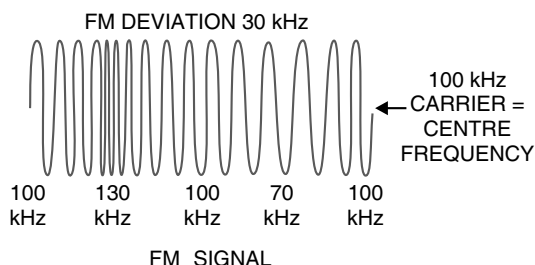

Fig. 14.21
**Illustration.** The process of frequency modulation (FM) can be made more illustrative if we consider numerical values. Fig. 14.21 shows the FM signal having carrier frequency  $f_c = 100$  kHz. Note that FM signal has constant amplitude but varying frequencies above and below the carrier frequency of 100 kHz ( $= f_c$ ). For this reason,  $f_c (= 100$  kHz) is called *centre frequency*. The changes in the carrier frequency are produced by the audio-modulating signal. The amount of change in frequency from  $f_c (= 100$  kHz) or *frequency deviation* depends upon the amplitude of the audio-modulating signal. The frequency deviation increases with the increase in the modulating signal and *vice-versa*. Thus the peak audio voltage will produce maximum frequency deviation. Referring to Fig. 14.21, the centre frequency